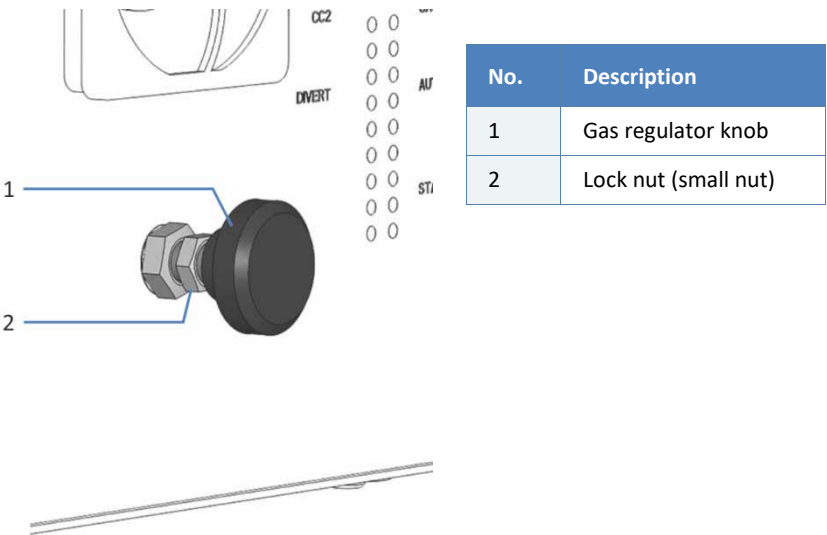

Figure 28: Gas regulator knob on Corona Veo detector
4. Loosen the lock nut of the gas regulator knob (no. 2 in Figure 28).